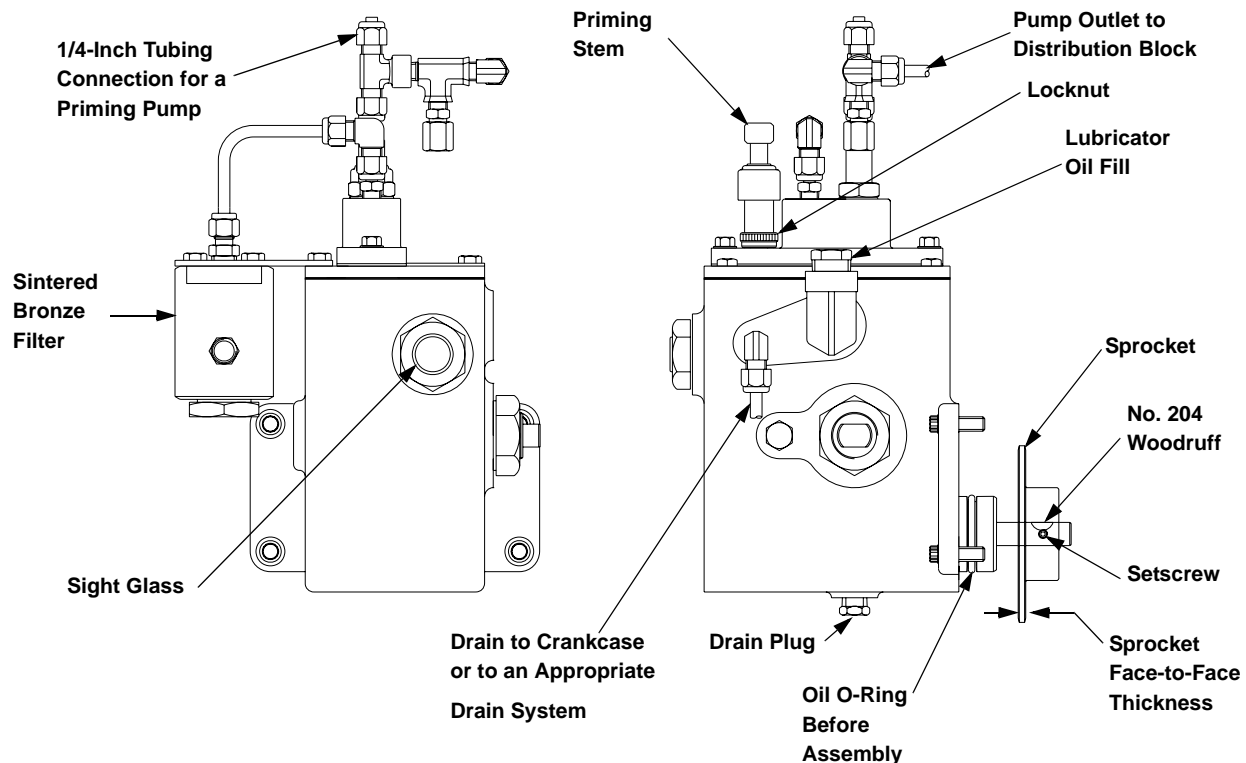

FIGURE 5-10 FORCE FEED LUBRICATOR AND SPROCKET - TYPICAL
1. Refer to Figure 5-10 on page 5-16.